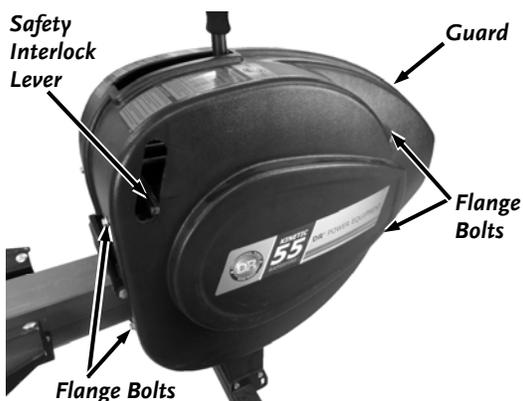

Figure 13
3. Position the left side Guard half onto the Splitter with the edge overlapping the right side half and secure with four Bolts using a 9/16" Wrench (**Figure 13**).